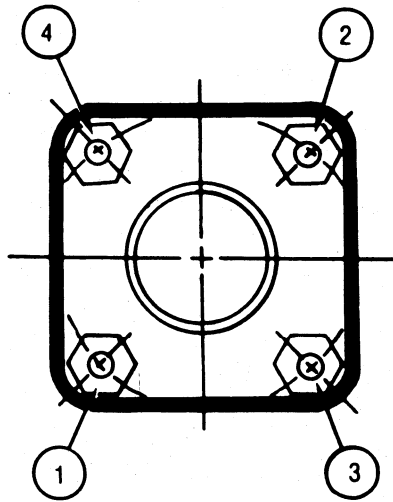

Figure 4
- A. Sight flow indicators should be disassembled by holding sight flow indicator firmly and loosening bolts by following the bolt loosening sequence shown in Figure 4.